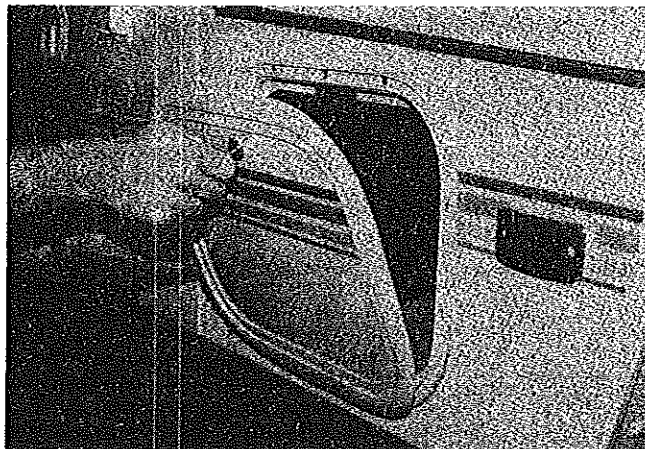

FIGURE 55
3. Side access to the storage area can be obtained by opening the side access doors on either side of the trailer. Insert key and turn 90 degrees clockwise to open. See Figure 55.